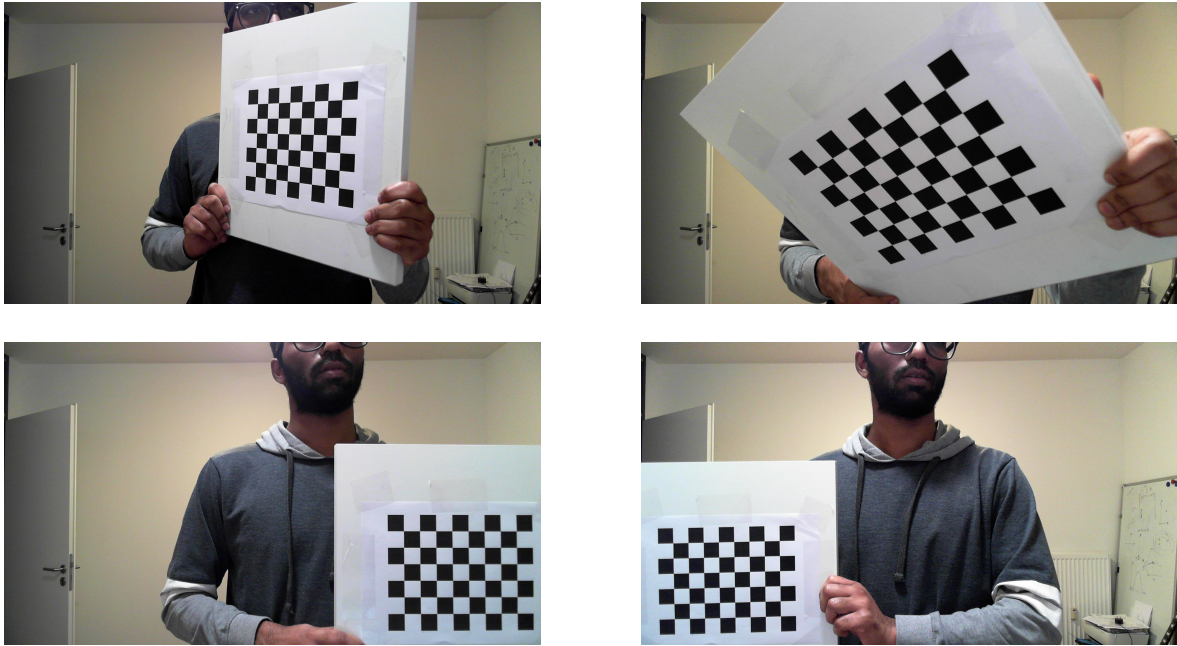

Figure 2: Examples of well chosen images for the camera calibration experiment.
- *Only a single configuration of the marker/calibration board used while taking the photos:* for producing good calibration results it is necessary to make photos with the marker being configured in different poses (making changes in orientations and not just in positions). A change in the orientation and position is good as long as the whole marker is clearly seen by the camera. Moreover, while changing those configurations, it is also necessary to – for only certain number of photos – cover edges of the camera's view, since major imperfections of the camera are located in those edges. See figure 2 for a few examples of well chosen marker configurations.